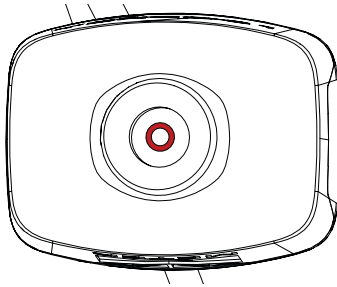

Figure 14 O-ring inside sensor unit
If water potential rises slowly or not at all even though the TEROS 31 is properly filled, the O-ring inside the sensor unit (Figure 14) may be worn out and needs to be replaced.
2. Use needle-nose or surgical tweezers to remove the old red O-ring (Figure 14).